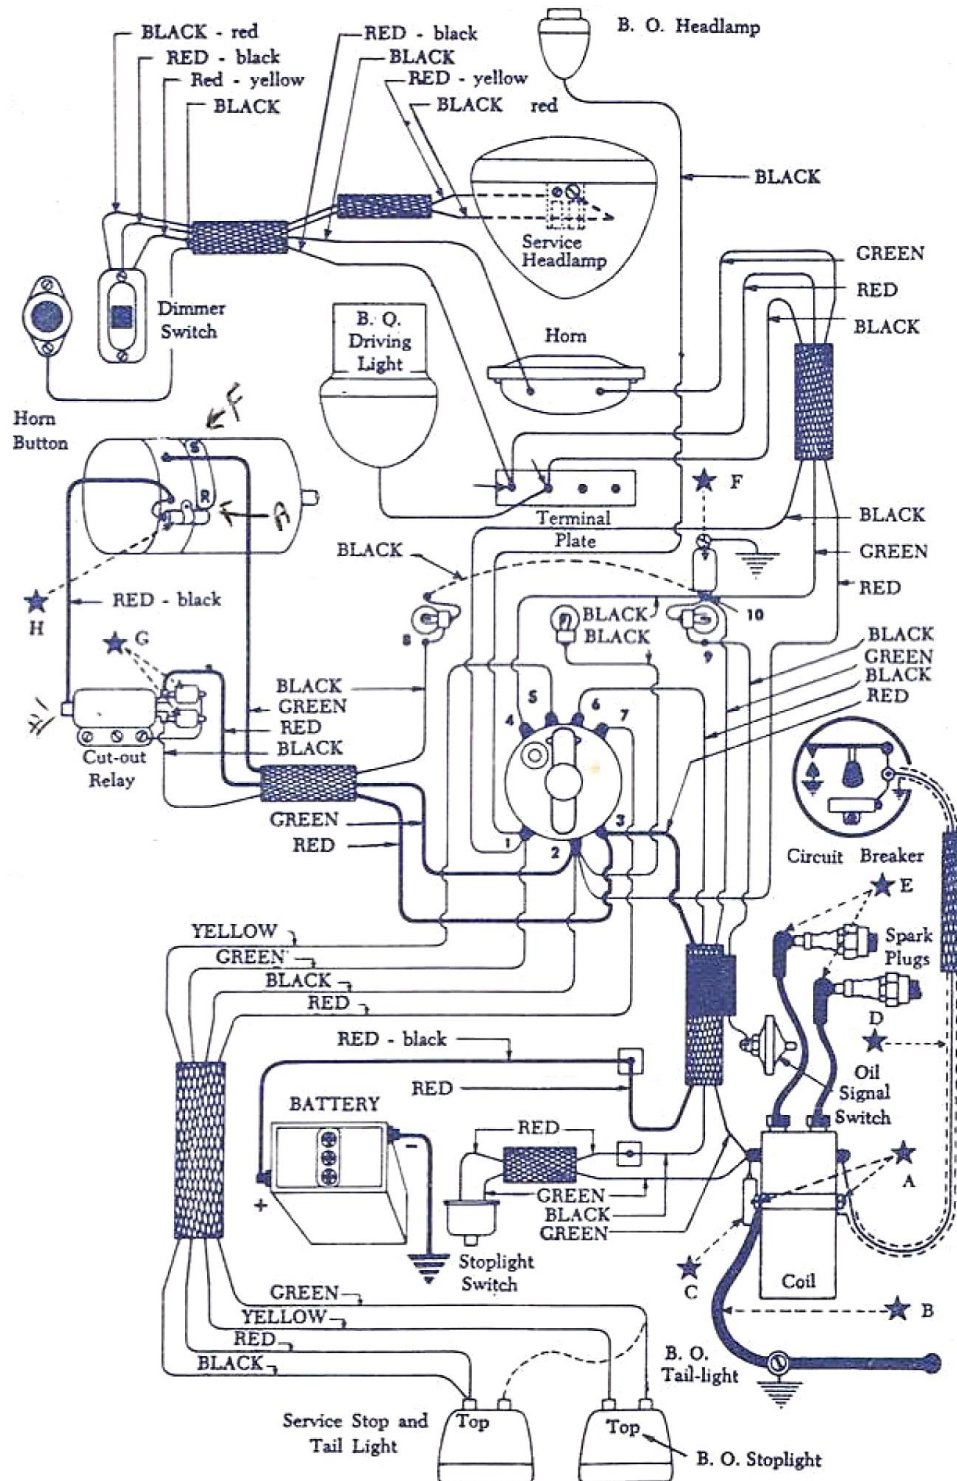

Figure 28 Standard WLA wiring system with radio interference suppression fittings added (indicated by stars)
3. The motorcycle has the conventional black-out lights with the clear light in front, the red light in the rear and amber stoplight. Number one post is the black-out post on the switch and when the switch is turned to the second position, current is shunted to this post from the number three hot post in the switch. The blackout stoplight works the same as the service stoplight. In addition, a black-out driving light is found on newer models. This light is mounted to the left of the horn and is operated by a switch on the top. The connection for this lamp is on the bakelite terminal board shown below the horn in Figure 28.
All late model motorcycles are equipped with radio interference and suppression devices. These devices are pointed out in Figure 28 by the lettered stars. There are two general methods used to prevent automotive electrical systems from causing radio interference. These are shielding and suppression. Shielding consists of encasing the wires and parts in a metal shielding which is grounded out to the frame. Shielding is used on the motorcycle only on the wire leading from the coil to the circuit breaker (D in Figure 28). Suppression devices are devices which filter out unwanted electrical impulses. There are three types of suppression devices; bonds, condensers, and resistors. All three are used on the motorcycle. Condensers are used at the following points:
- a. Coil-condenser case grounded by mounting bracket and end terminal connected to the low tension terminal of coil which is connected to post No. 10 (C in Figure 28).
- b. Generator-condenser case grounded by mounting bracket on generator frame end and end terminal connected to "relay" terminal of generator (H in Figure 28).
- c. Signal lamp terminal No. 10 – one terminal connected to signal lamp terminal No. 10 and the case is grounded to switch panel base (F in Figure 28).
- d. Relay - one condenser connected to each relay front terminal. Both condensers are grounded to the relay base (G in Figure 28).
Resistors are used on the two spark plug terminals where they are attached to the ends of each spark plug high tension lead and secured to the spark plug terminals by snap connections (E in Figure 28).
Bonding is used to thoroughly ground the spark coil. A metal band is soldered directly to the coil case (A in Figure 28) and connected to this band is a flexible braid conductor (B in the Figure) which is grounded to saddle post frame tube at clutch control mounting bracket and also to the crankcase at rear upper crankcase bolt.